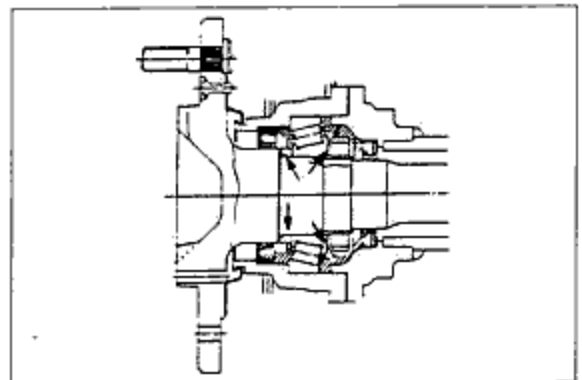

Fig. 9-33
- Apply sufficient grease to the oblique line parts in the figure 9-33.